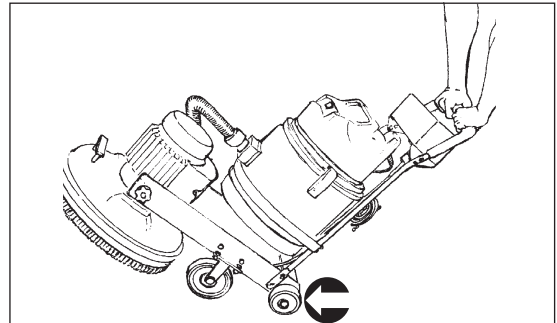

Figure 14
- c.) Remove foot from tilt assist strap and continue to push down on the handle until the machine rests in the up position on the handle and tilt wheels. (see Figure 14)